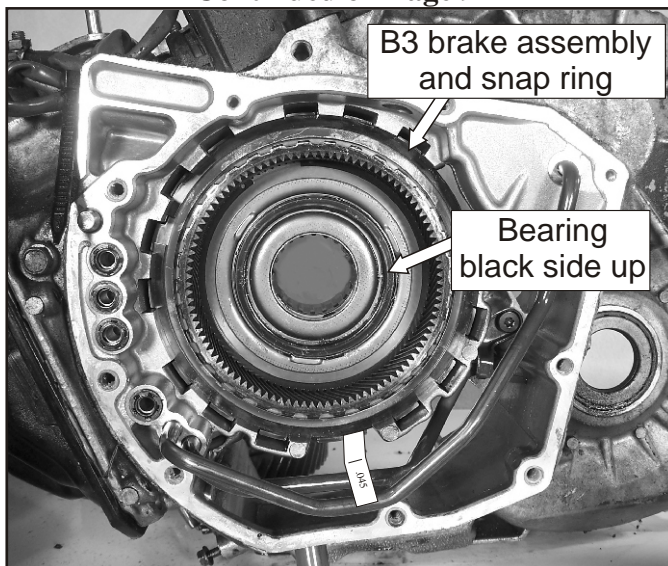
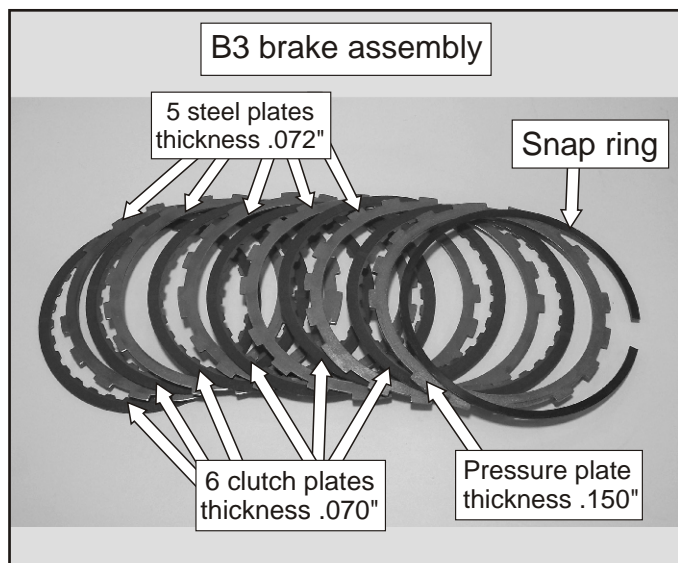

Figure 240
Figure 239
- 168. Install the B3 brake assembly into the case half starting with a .070" clutch plate and ending with the .150" pressure plate and the snap ring. Check the clutch clearance using a feeler gage as shown in Figure 240. Clutch clearance should be between .040"-.050." Refer to Figure 239 as an assembly guide for the B3 brake. Install the rear ring gear internal bearing black side up.